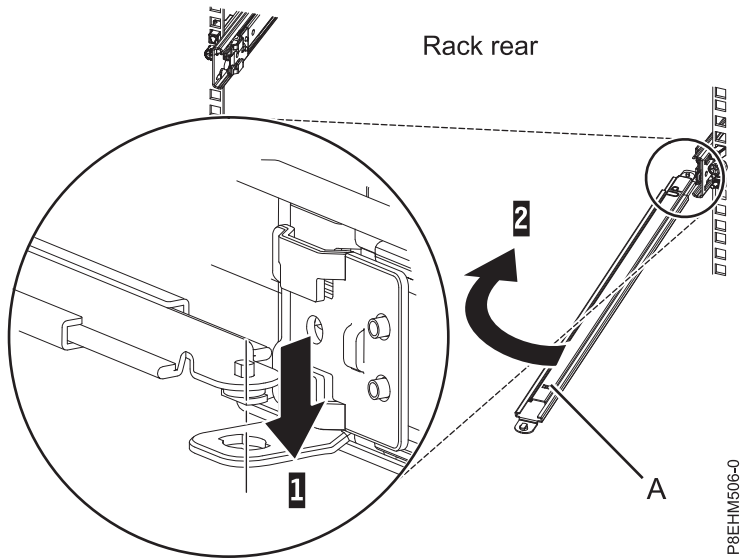

Figure 10. Connecting the support arm
2. Connect one end of the support arm (A) to the right slide rail **(1)** so that you can swing the other end of the support arm toward the left side of the rack **(2)**. See Figure 10 on page 10.